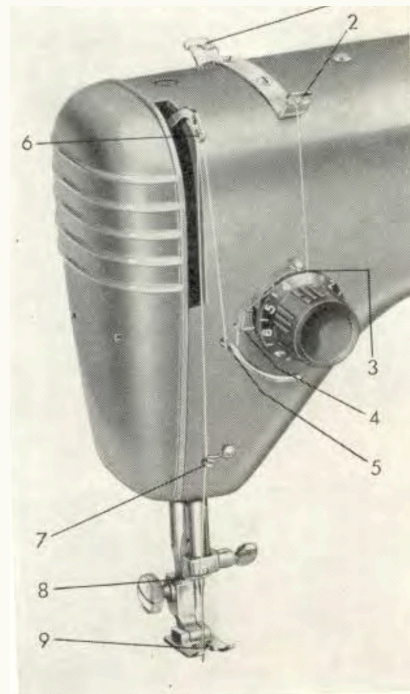
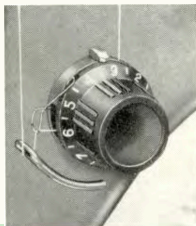

Fig. 12.
Fig. 13.
The tension of the upper thread is regulated by the pressure of the tension discs (3, Fig. 12) against each other. This pressure is adjusted by means of a knob calibrated from 0 to 9 with 0 as lowest and 9 as highest thread tension (Fig. 13). When the machine leaves the factory, it is adjusted for linen-sewing with mercerized thread No. 50.
Bring the thread take-up lever (6, Fig. 12) to its highest position by turning the hand wheel towards you. Put a spool of thread on one of the spool pins (41 and 42, Fig. 2).
Pass thread through the thread guides (1 and 2, Fig. 12), then round from right to left between the innermost tension discs (3), over the crotch of the thread take-up spring (4), under the slack thread regulator (5) and up through one of the eyes in the thread take-up lever (6). From the take-up lever take the thread down through thread guide (7) and the guide on the needle clamp (8) and thread it through the needle from the front through the needle point, pulling out 3 or 4 inches behind.